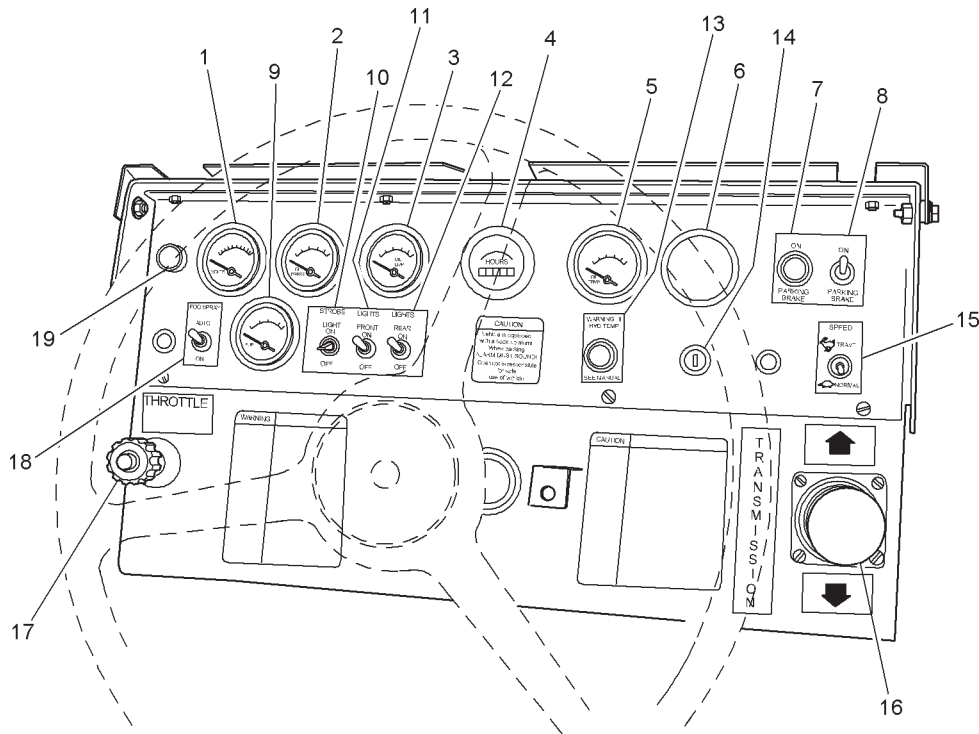

Figure 5-1
1. Turn ignition switch to START position. Release key when engine starts (see Figure 5-1).
3. Check indicators and gauge operations. All indicator lights (Figure 5-1) should be OFF.